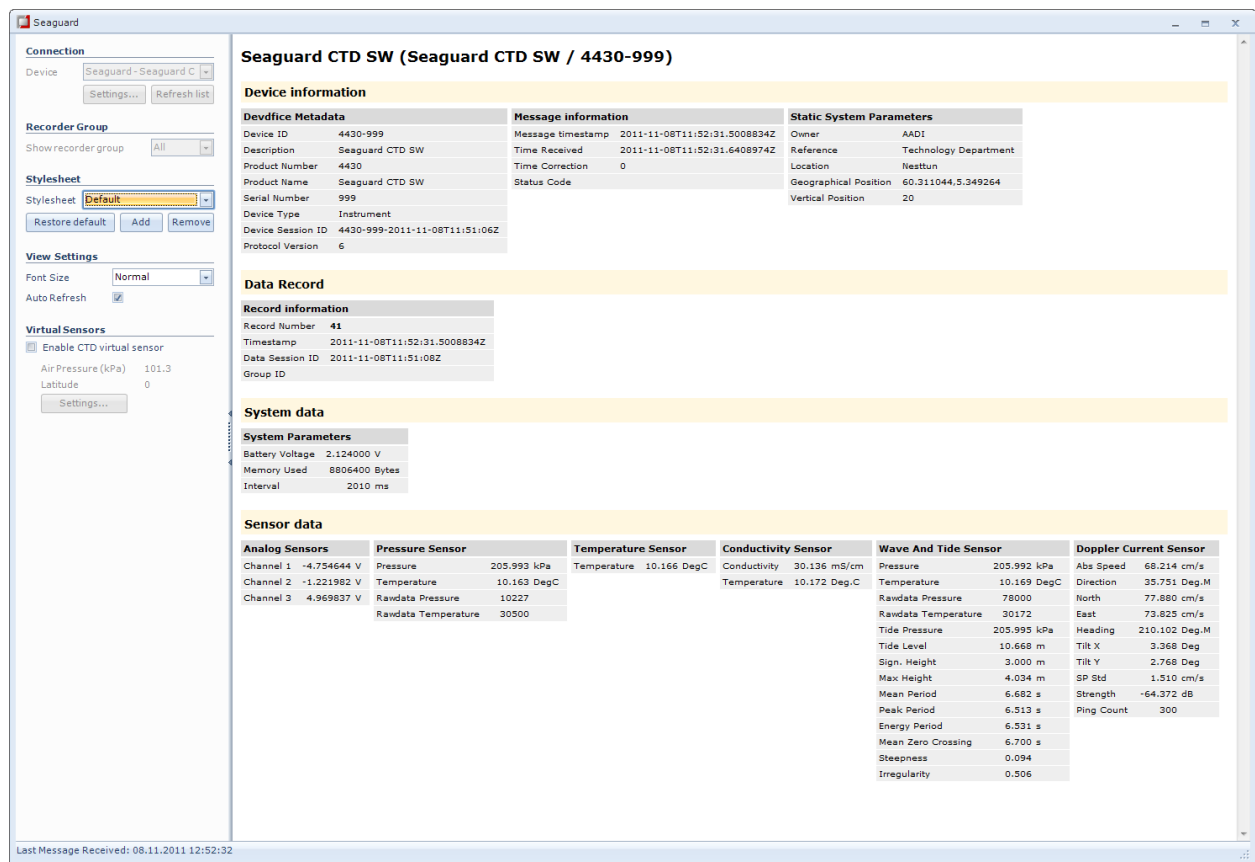

Figure 10-2 The Text Viewer.
- **Virtual Sensors:** Click to add a CTD virtual sensor to the view (see Figure 10-2). The virtual sensor data is calculated using the UNESCO equation of state for sea water, given that enough input data is available (such as a pressure reading). Press the **Settings** button to set the air pressure and latitude used in the calculations.